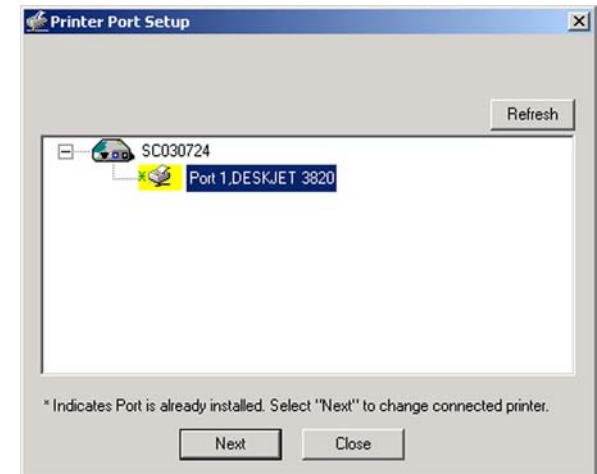

Figure 5-8: IP Address
- The Printer Port Setup screen will appear, as shown in Figure 5-8, and list the PrintServer and the connected printers. Select a printer, then click **Next** to install the printer.